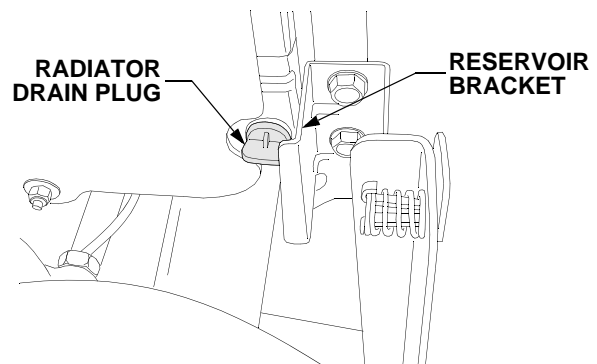

Figure 53
- Locate the radiator drain plug in the lower *right* rear corner of the radiator. See Figure 53.